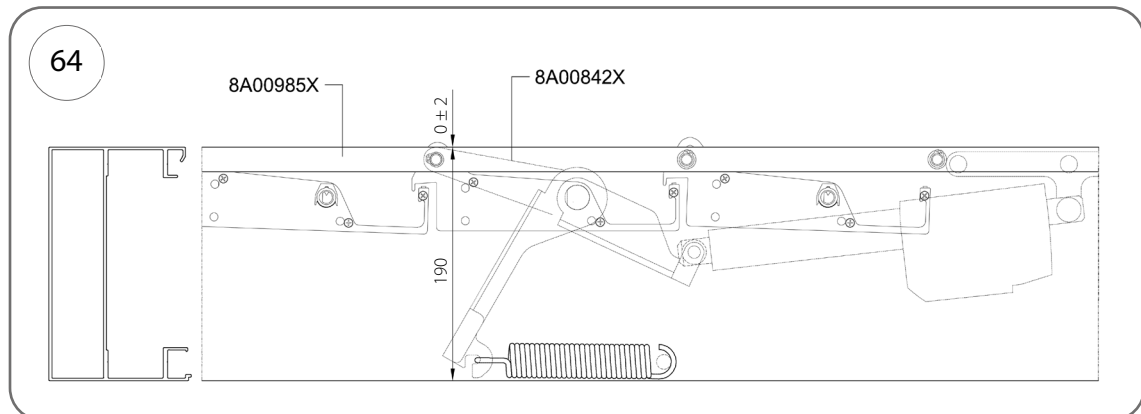

Fig. 64
3. Set the closed end position in accordance with Fig. 64.